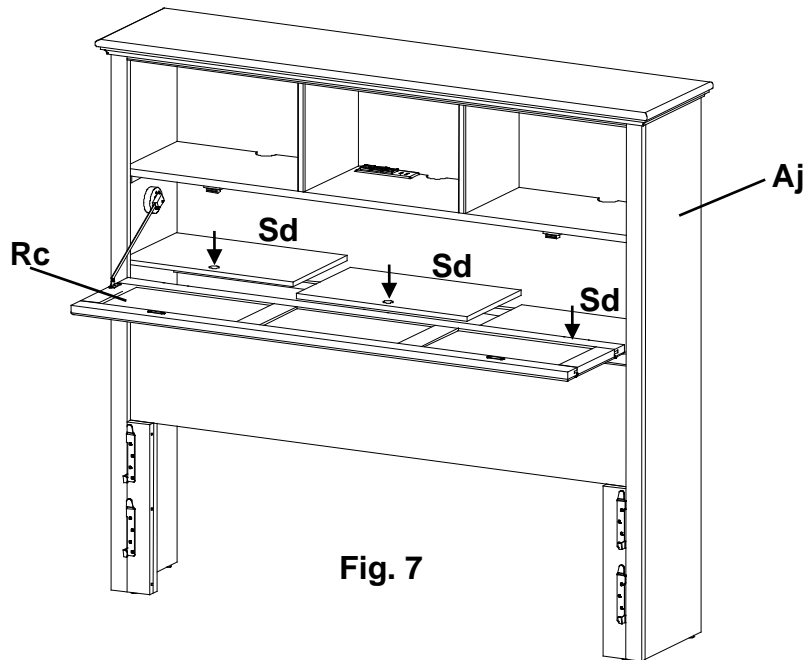

Fig. 7
7. Unwrap the False Bottoms (Sd) and place them on top of the rails in the Headboard Assembly (Aj). Make sure the finger holes face forward as shown in Figure 7. After you have placed your electronics inside the cubbies, use the Wire Clips (ZS) on the underside of the cubbies to secure the wires. Close the door tightly making sure the magnetic catches and plates securely touch.